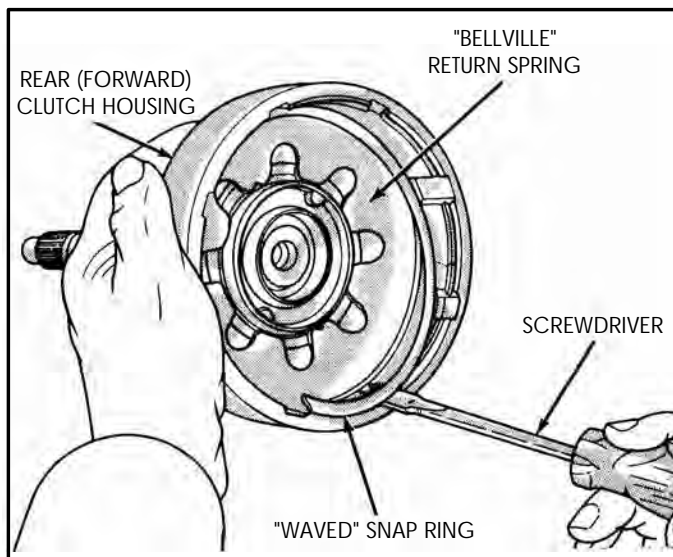

Figure 75
3. Remove the "Waved" snap ring retaining the bellville return spring, using a screwdriver, as shown in Figure 75.
14. Install the "Waved" snap ring into the bottom groove, as shown in Figure 75, and ensure that it is fully seated.